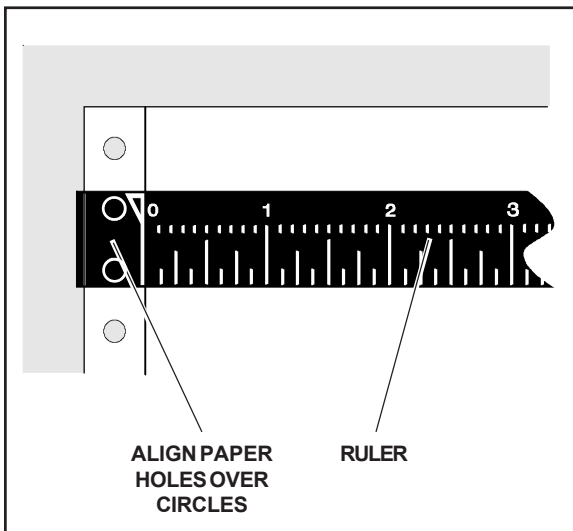

Figure A-4. Aligning Paper in the Bottom Path
5. Slide the tractors and paper left or right as needed until the paper holes on the left side of the paper align with the circles on the ruler, as shown in figure A-4. Then, push back the left tractor locking lever to lock that tractor in place.